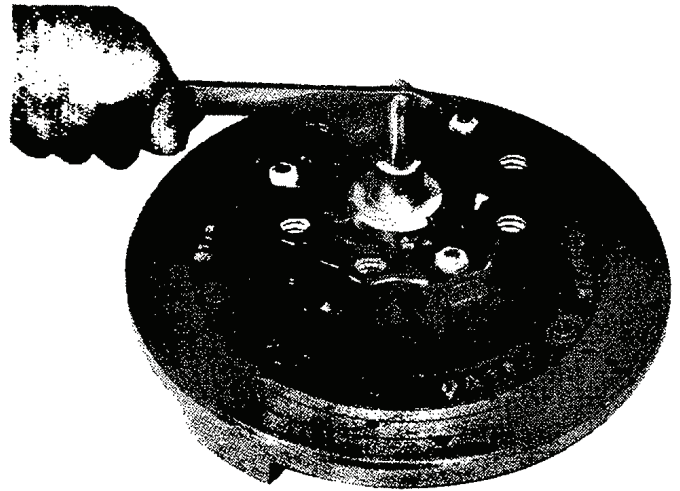

Fig. E.6.
*Using the clutch gauging fixture (Fig. E.6)*